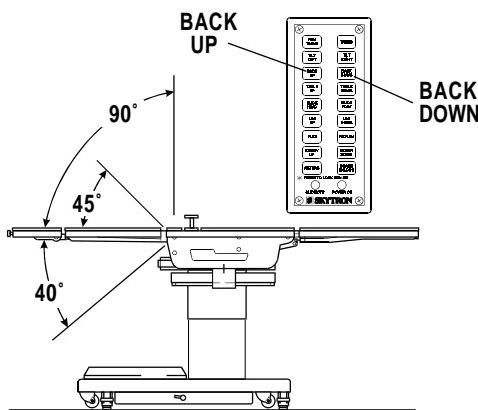

Figure 2-6. Back Section Positioning
**d. Back Section.** To raise the back section, press the BACK-UP button (figure 2-6). The back section will raise up to 90° above horizontal. To lower the back section, press the BACK-DOWN button. The back section will go down to 40° below horizontal.